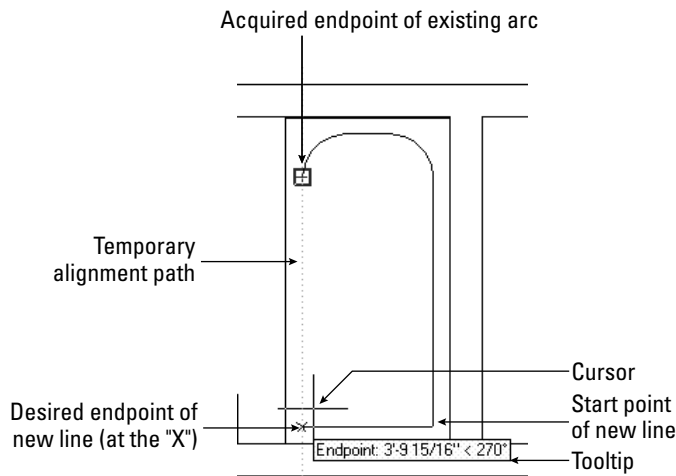

Figure 4-28: With the endpoint object snap active and ORTHO on, AutoCAD displays temporary alignment paths based on the acquired point.
3. Move the cursor away from the object snap toward your desired point. You see the temporary alignment paths as you move the cursor over available drawing paths, as shown in Figure 4-28. If ORTHO is on, you see only horizontal and vertical paths. If POLAR is on, you see polar paths based on the polar angle settings, as explained earlier in this chapter.